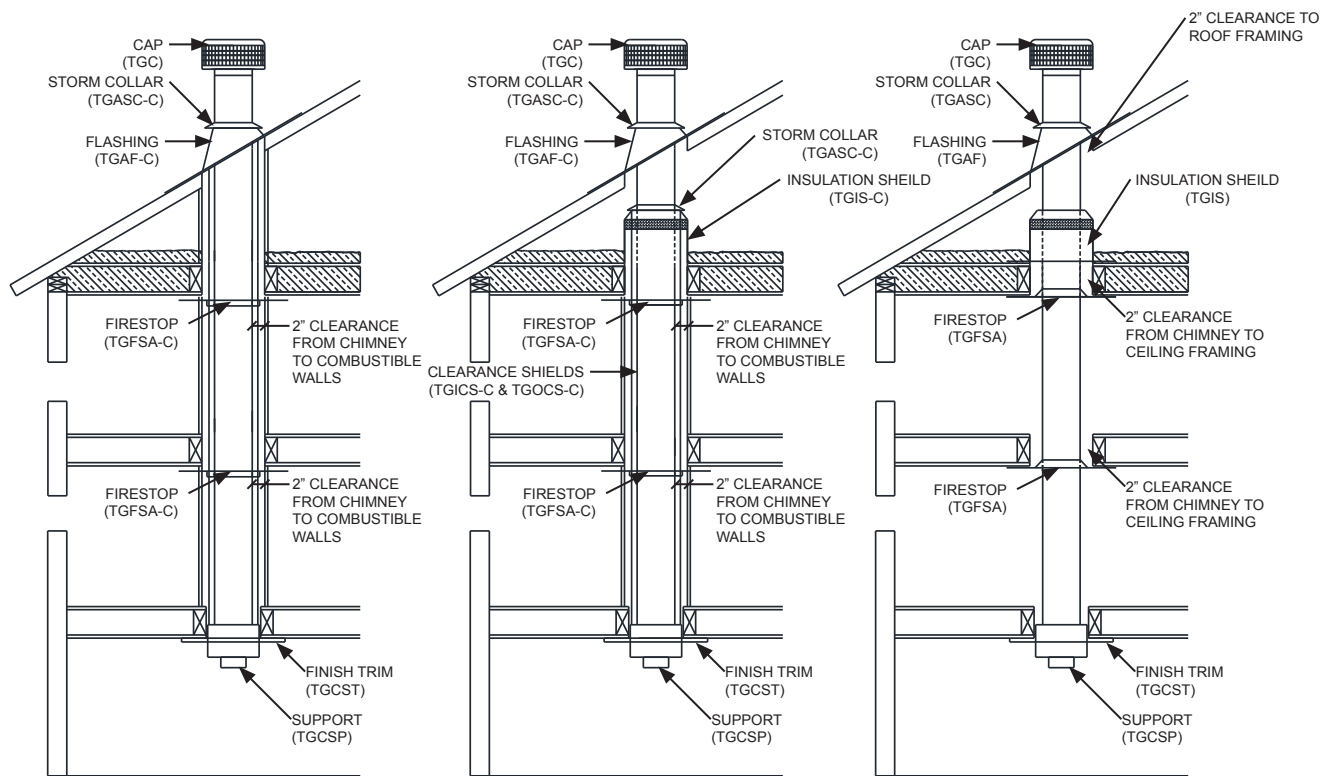

FIG.1
- For factory-built wood burning fireplaces, Clearance Shields are usually not required. Refer to fireplace manufacturer and follow fireplace installation instructions to confirm if chimney is approved for use without shields (See FIG 1).
- On wood stove or coal stove application and in area where the chimney is completely enclosed, it's required to install Clearance Shields around the chimney. Clearance Shields are of a telescopic, slip fit design and are secured at each joint with hex sheet metal screws provided. Locate shields and secure at the (3) predrilled hole locations with #8 self tapping hex screws (provided) For venting of gas or oil burning appliances Clearance Shields are not required even where the chimney is enclosed.